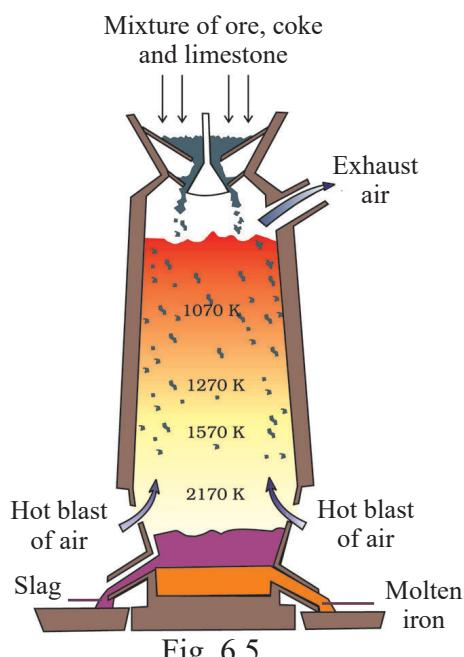

Fig. 6.5
Iron is produced in steel towers, known as blast furnaces, which are 25 to 30 meters high. Its interior is lined with bricks (Refractory bricks) capable of withstanding high temperatures (Figure 6.5). The concentrated ore mixed with limestone ( $\text{CaCO}_3$ ) and coke (C) is fed from the top of the furnace via cup & cone arrangement. This mixture is called charge.